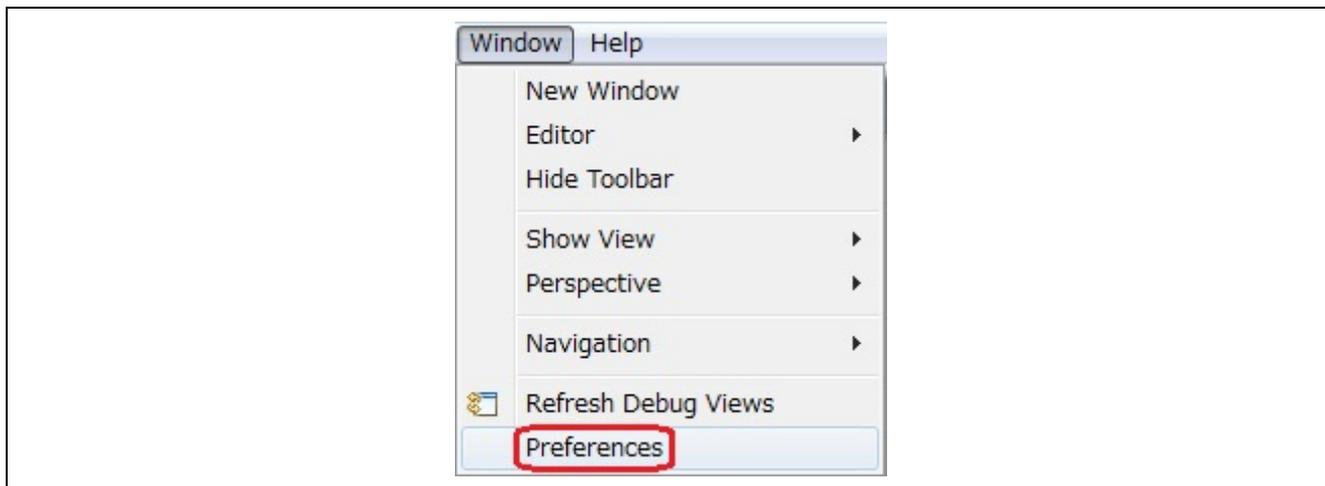

Figure 28 Selecting the Window > Preferences menu
1. Select the **Window > Preferences** menu to open the **Properties dialog box** and the **C /C++> Renesas > Synergy License** selection in the **Preferences** window (Figure 28).